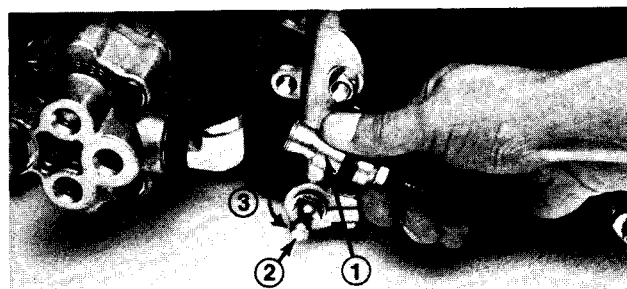

Figure 25
3. Slide the sleeve back on the ball joint and disconnect the pull arm from each side of the cutting unit (Fig. 25).